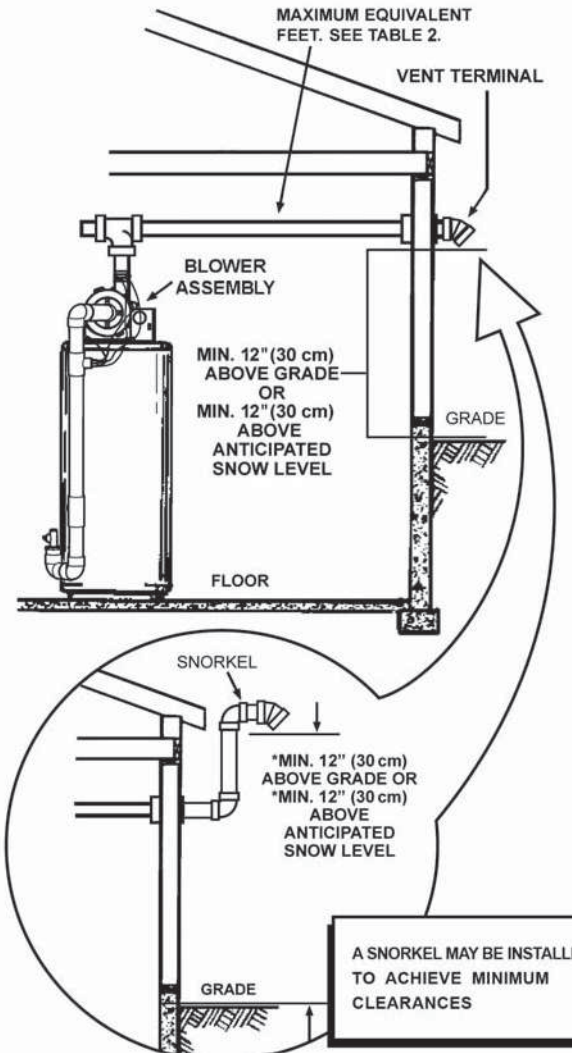
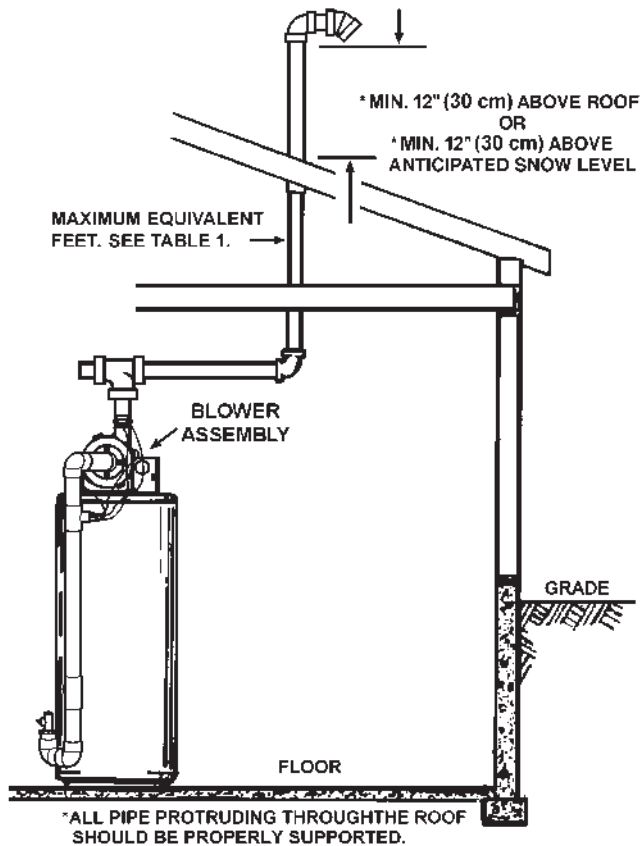

Figure 19. Sidewall Vent Installation Snow Clearances
Figure 20. Through-the-Roof Vent Installation
**Note:** There will be some installations where condensate will be formed in the horizontal runs of the vent system. This condensate will run into the condensate boot attached to the blower and out the fitting. The water heater is shipped with condensate hose that attaches to the fitting on the condensate boot. No other Tee or fitting is required. See *Figure 17* (page 21), *Figure 19* (page 22), and *Figure 20* (page 23).
The first step is to determine where the vent pipe will terminate. See *Figure 26* (page 27), *Figure 19* (page 22), and *Figure 20* (page 23). The vent may terminate through a sidewall as shown in *Figure 19* (page 22) or through the roof as shown in *Figure 20* (page 23).
If necessary to achieve the 12" minimum clearance above the highest anticipated snow level, install a snorkel as shown in bottom portion of *Figure 20*.
**Note:** Vent Termination must extend a minimum of 12 inches (30 cm) above roof or 12 inches (30 cm) above the anticipated snow level to prevent blockage of the vent termination, as shown in *Figure 19* and *Figure 20* (page 22).